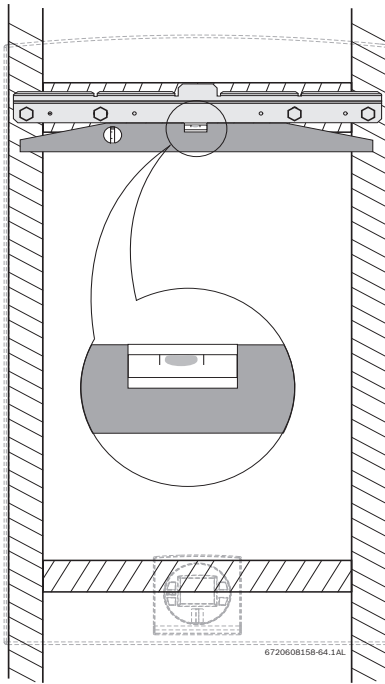

Fig. 22 Leveling wall mounting bracket
- ▶ Secure the wall mounting bracket provided with the heater to a wall surface. The heater must be kept level on the wall surface, see Fig. 22, page 22.